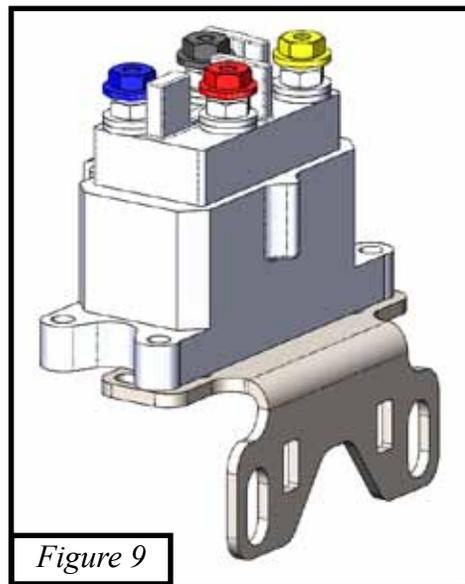

Figure 9
- The contactor comes with four bolts to mount up. Attach the contactor to the contactor bracket (6) using two of the mounting bolts. Using the two flat washers (8.4) and remaining contactor hardware attach the bracket to the battery tray. Figures 9, 10, 11